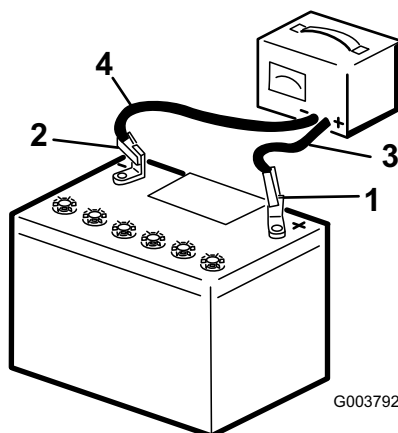

Figure 35
3. Charge the battery for 10 to 15 minutes at 25 to 30 amps or 30 minutes at 4 to 6 amps (Figure 35). Do not overcharge the battery.
disconnect the charger leads from the battery posts (Figure 35).